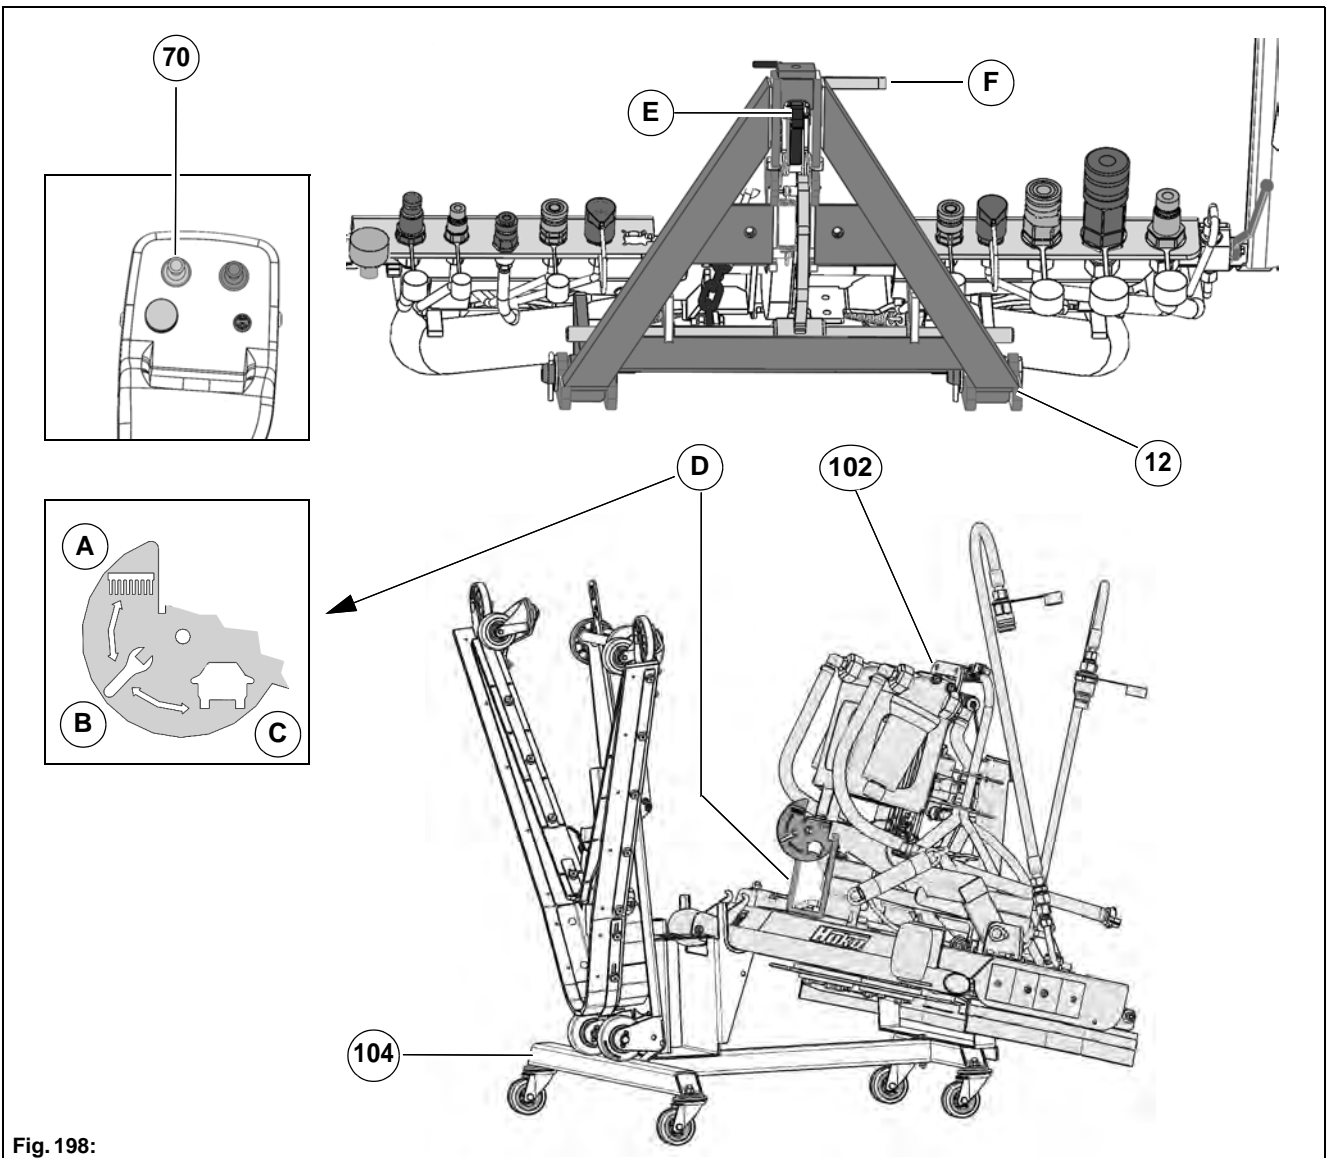

Fig. 198:
- 1 Unlock the locking hook **Fig. 198-E** and the locking rod **Fig. 198-F** on the front tool carrier **Fig. 198-12**. Position the front tool carrier to the holder of the scrubbing deck with the joystick **Fig. 198-70**.
2. Bring the locking bow **Fig. 198-D** into the working position.
- Working position = **Fig. 198-A** (brush symbol)
- Maintenance position = **Fig. 198-B** (wrench symbol)
- Transport position = **Fig. 198-C** (vehicle symbol)